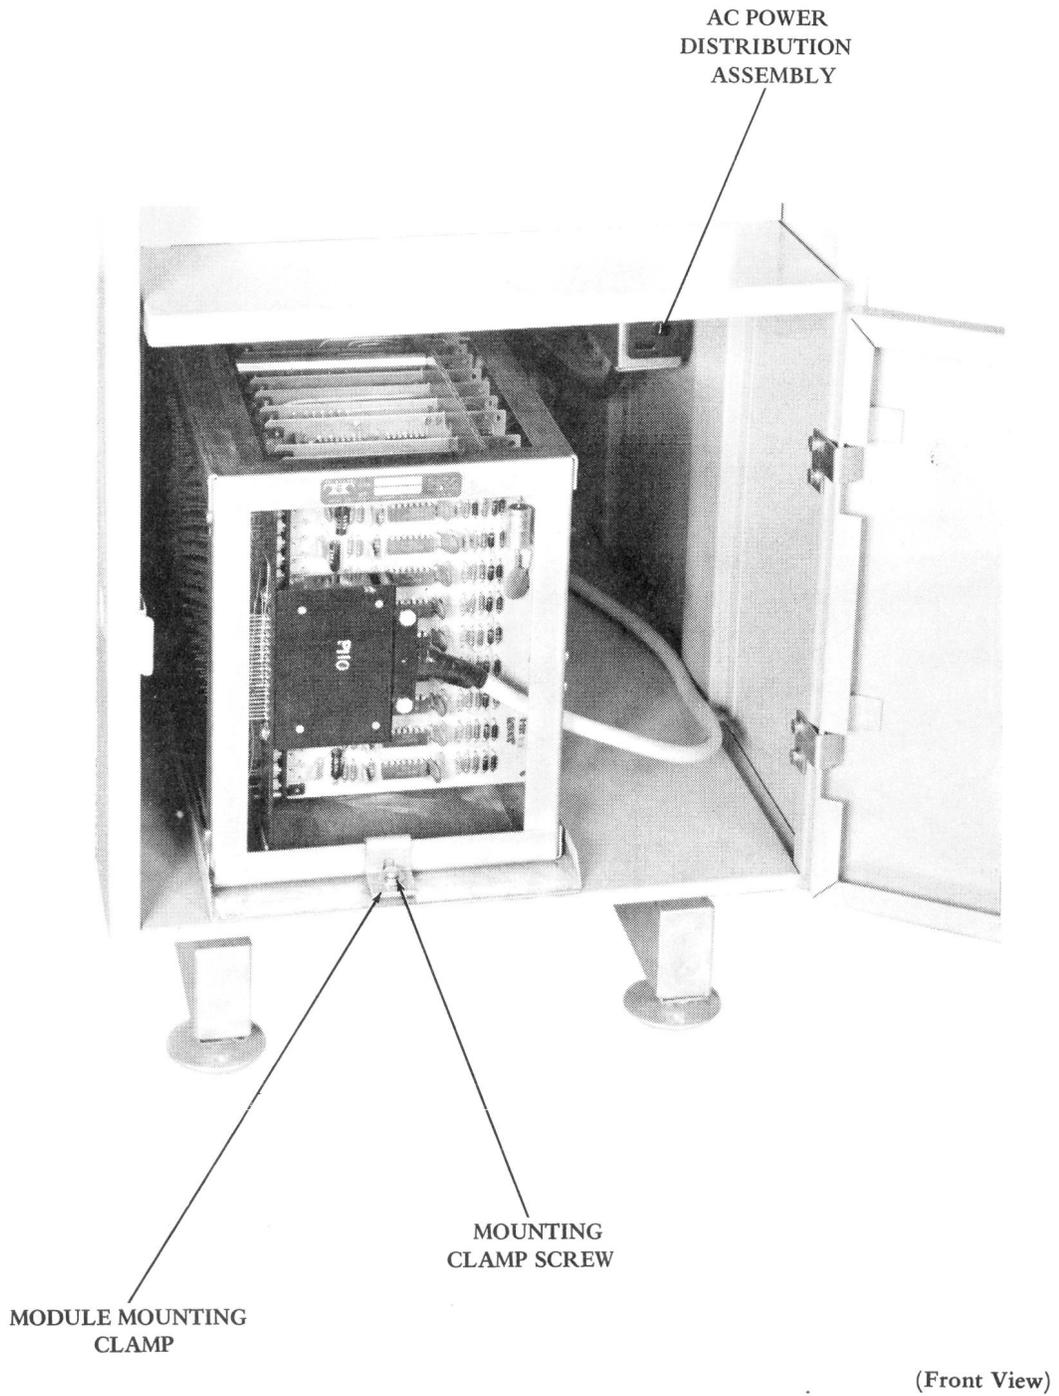

Figure 5 - Stand-Alone or 33/35/37 Adjunct Tape Set
- (1) Open cabinet lower door, remove one each module mounting clamp screw (TP55219), lockwasher (TP3646), and flat washer (TP2719) and remove clamp (TP337251) (Figure 5).